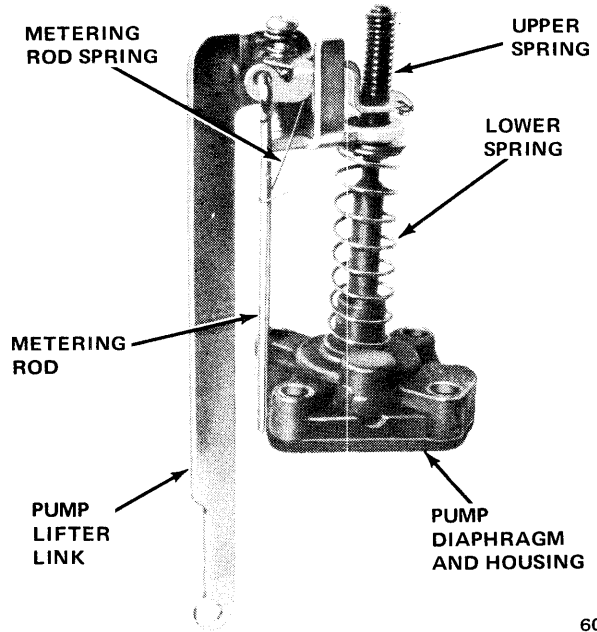

Fig. 4-24 Accelerator Pump and Metering Rod Assembly
(7) Remove fast idle cam and shoulder screw.
(8) Remove accelerating pump diaphragm housing screws. Lift out the pump diaphragm assembly, pump lifter link, and metering rod as a unit (fig. 4-24).
(4) Install metering rod on the metering rod arm and place looped end of metering arm spring on metering rod (fig. 4-24).
(5) Align pump diaphragm with diaphragm housing (make sure the holes are aligned) and install housing attaching screws.
(6) Align pump housing, pump lifter link, and metering rod with main body casting.
(7) Install assembly in main body casting, being careful to engage pump lifter link with main body and to insert metering rod in metering rod jet.
(8) Install pump housing attaching screws but do not tighten. Push down on diaphragm shaft to compress diaphragm and tighten attaching screws.
(9) Adjust metering rod, following procedure under Metering Rod Adjustment.
(10) Install fast idle cam and shoulder screw. Install throttle shaft arm and pump connector link or throttle shaft and pump lifter link. Tighten lock screw.